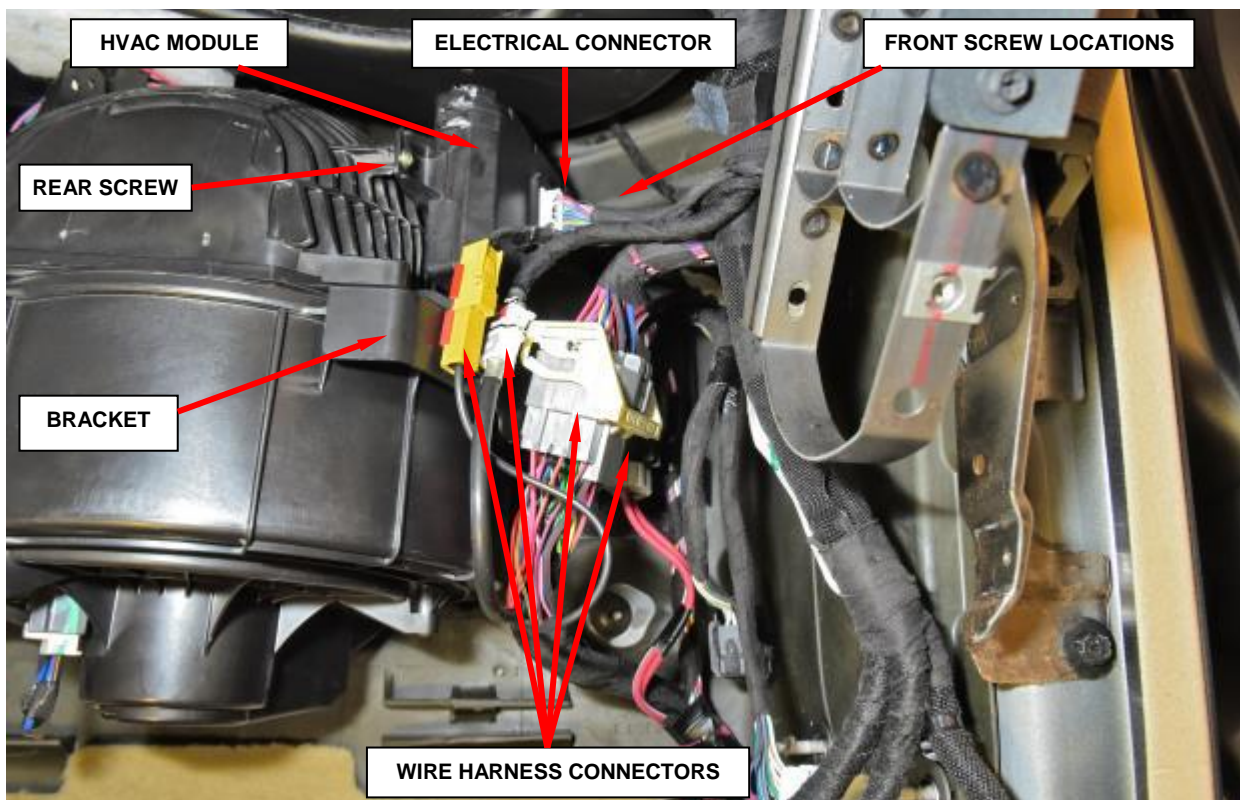

Figure 48 – HVAC Module
7. Disconnect the electrical connector from the HVAC module, located on the air inlet housing (Figure 48).
8. Release the wire harness connectors from the bracket (Figure 48).
9. Loosen the two screws that secure the front of the HVAC module to the air inlet housing (Figure 48).
10. Remove the one screw that secures the rear of the HVAC module to the air inlet housing (Figure 48).